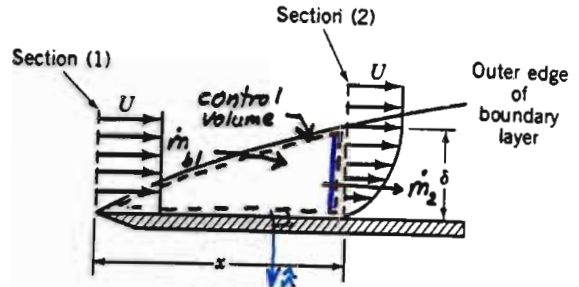

FIGURE P5.22
**5.22** Flow of a viscous fluid over a flat plate surface results in the development of a region of reduced velocity adjacent to the wetted surface as depicted in Fig. P5.22. This region of reduced flow is called a boundary layer. At the leading edge of the plate, the velocity profile may be considered uniformly distributed with a value  $U$ . All along the outer edge of the boundary layer, the fluid velocity component parallel to the plate surface is also  $U$ . If the  $x$  direction velocity profile at section (2) is